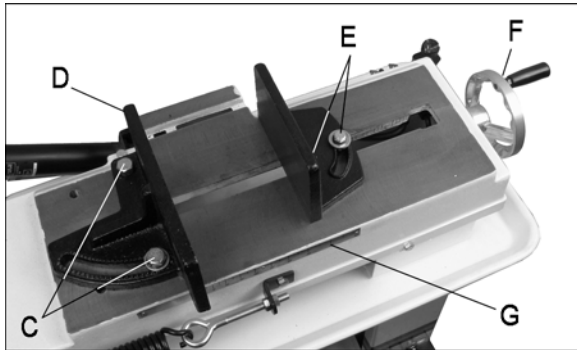

Figure 15
1. Make sure fixed jaw (D, Figure 15) has been squared (section 9.2, Squaring blade to vise).
3. Loosen screws (E) on floating jaw, and use handwheel (F) to bring floating jaw into contact with workpiece, allowing it to conform to the shape.
4. Tighten screws (E).